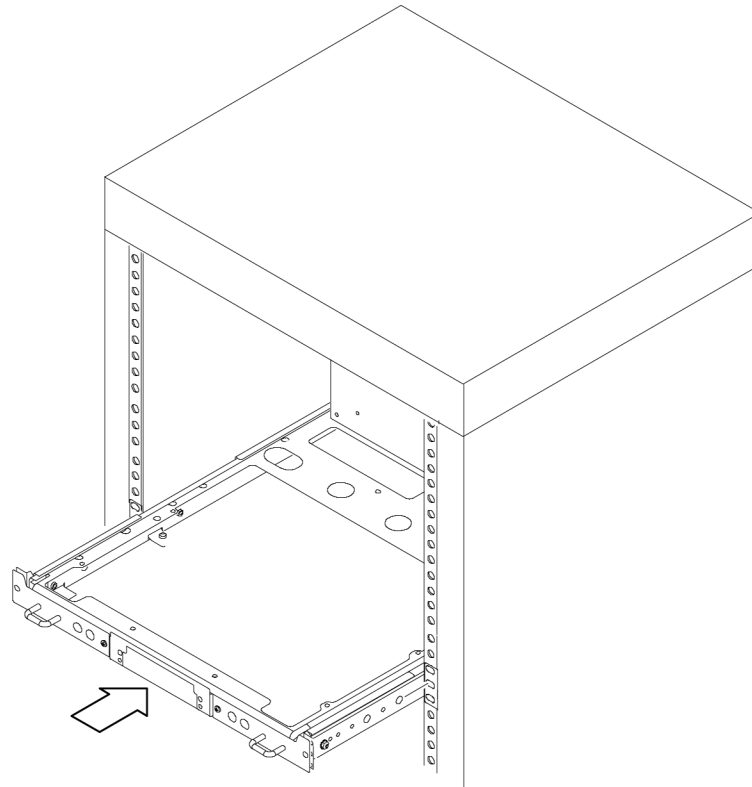

Figure 7: Installation of rack plate assembly in rack (top view) (configurations 1 and 2 shown)
3. Install the rack platform in your equipment rack by inserting the platform into the slides as shown. (See Figure 7.)